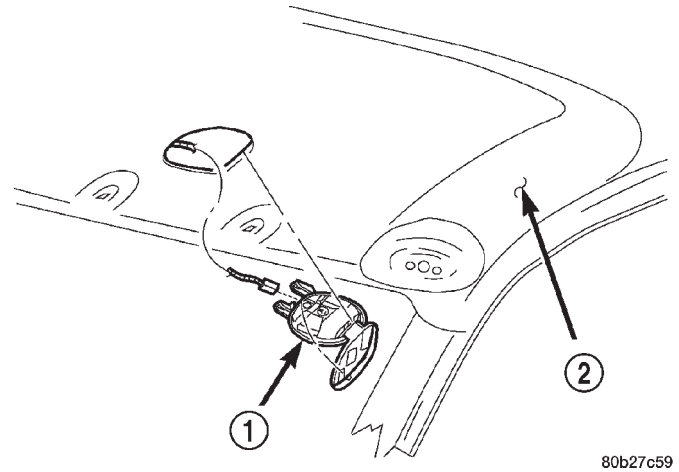
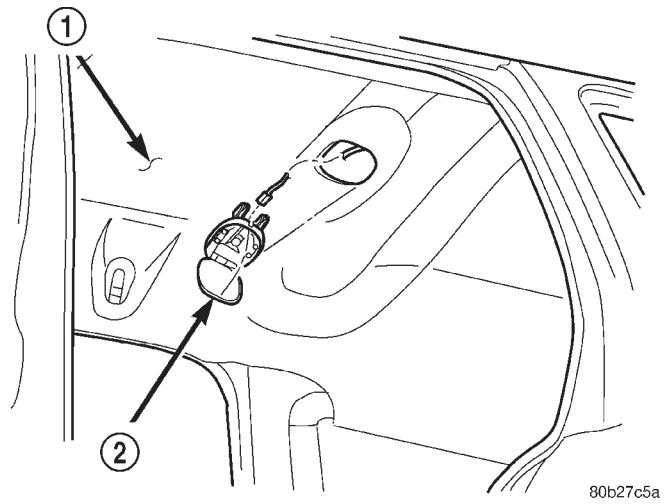

Fig. 10 Front Dome Lamp
Fig. 11 Rear Dome Lamp
- (1) Using a small flat blade, pry the left side (driver's side) of the dome lamp lens downward from dome lamp.
- (2) Allow the lens to hang down, this will disengage the right side of the lamp (passenger's side) from the headliner.
- (3) Pull the right side of the lamp down and slide the lamp to the right.
- (4) Separate the lamp from the headliner.
- (5) Disengage dome lamp wire connector from body wire harness.
- (6) Separate dome lamp from vehicle (Fig. 10) and (Fig. 11).